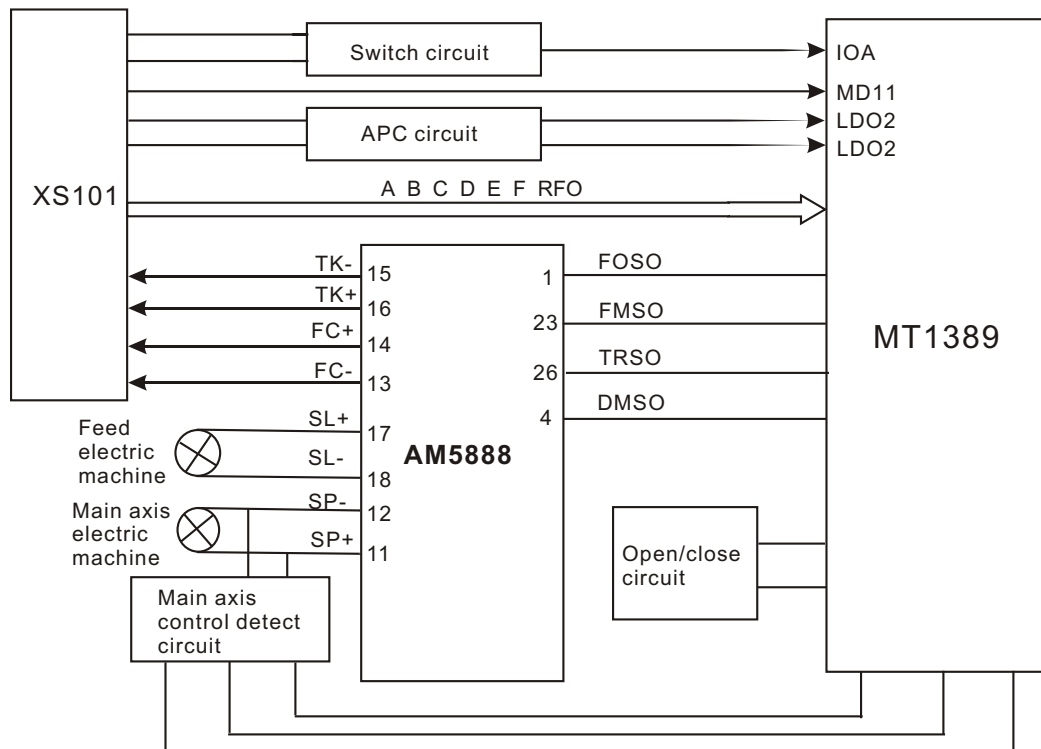

Figure 3.2.2.1 Servo circuit block diagram
1. Servo system of this player adopts SANYO 65 loader and MTK decode solution (MT1389HD+FLASH (16M) +SDRAM (64M)), and its servo circuit is mainly composed of front end signal processing, digital signal processing and digital servo processing, digital signal processing IC MT1389 and drive circuit Am5888, in which Mt1389 is also the main part of decode circuit. Servo circuit block diagram is shown in the figure 3.2.2.1: